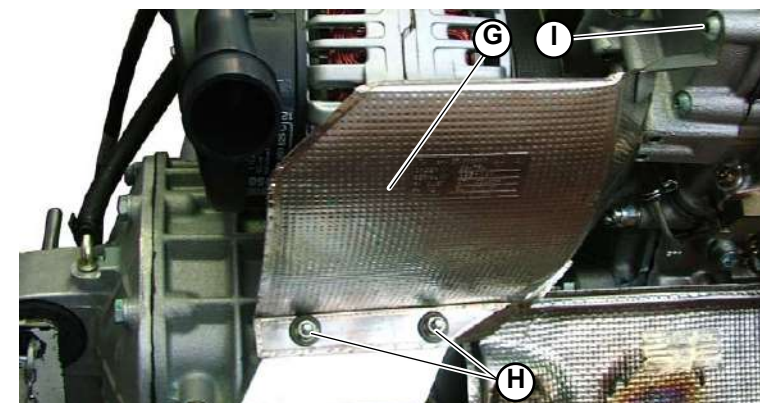

Fig.5
6. Secure the heat-proof panel (G-Fig.5) tightening the 2 bolts (H-Fig.5) and the screw (I-Fig.5).